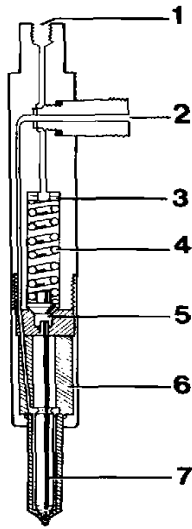

Fig. 123. Injector, KBEL
When the fuel pressure reaches the set value (opening pressure) the nozzle needle (7, fig. 123), which is pressed against its seat by a thrust spring (4), lifts and finely atomized fuel is injected into the engine through accurately calibrated holes in the nozzle sleeve.